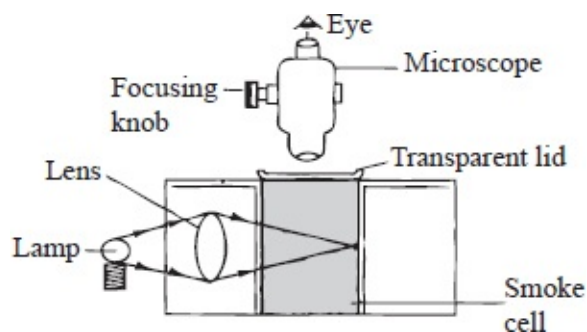

Fig. 5.7: Smoke cell experiment
- Now, set up the apparatus as shown in figure 5.7.